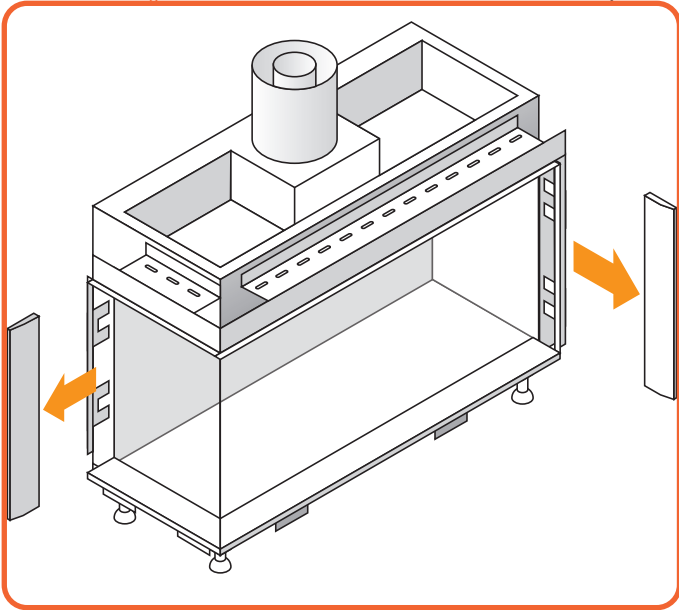
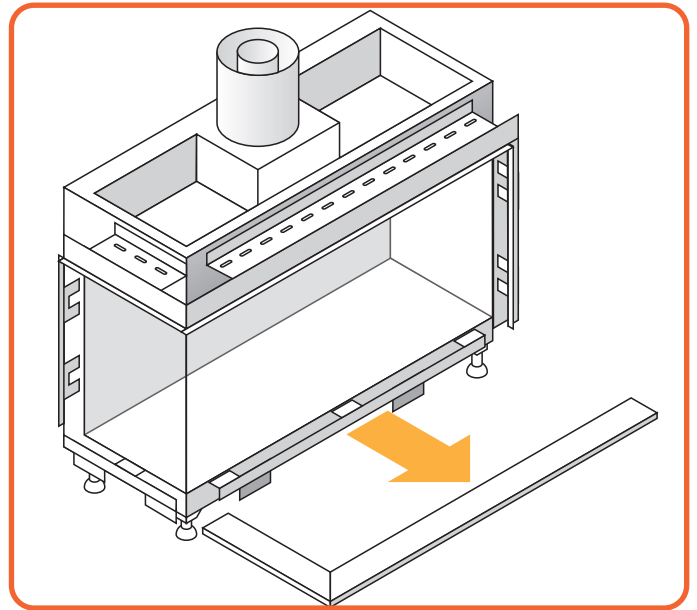

Figure 9.4 | Remove side trims
Figure 9.5 | Remove bottom trim
- Remove both the side trims and bottom trim. They are held by magnet snappers, Figure 9.4 and Figure 9.5.